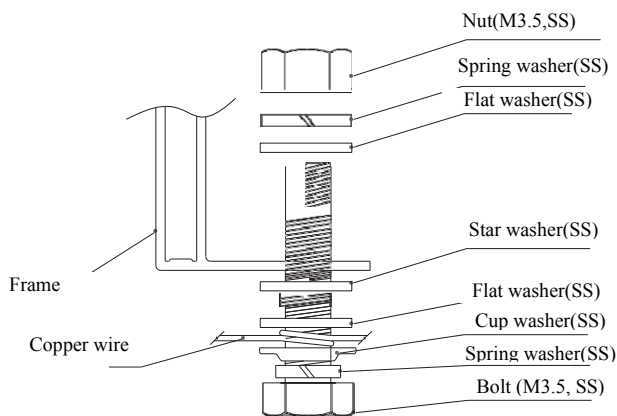

Figure 9
- The grounding bolts must be made of stainless steel and be used in the specified grounding holes. First, make the M3.5 stainless steel bolt pass through the spring washer, flat washer, cup washer (copper conductor with a diameter of 2.1 mm) and star washer, and then insert through the grounding hole, flat washer and spring washer on the frame. Finally, tighten with a M3.5 nut. Caution: The upper limited temperature of the conductor is 85°C. As for the installation, refer to Figure 9.